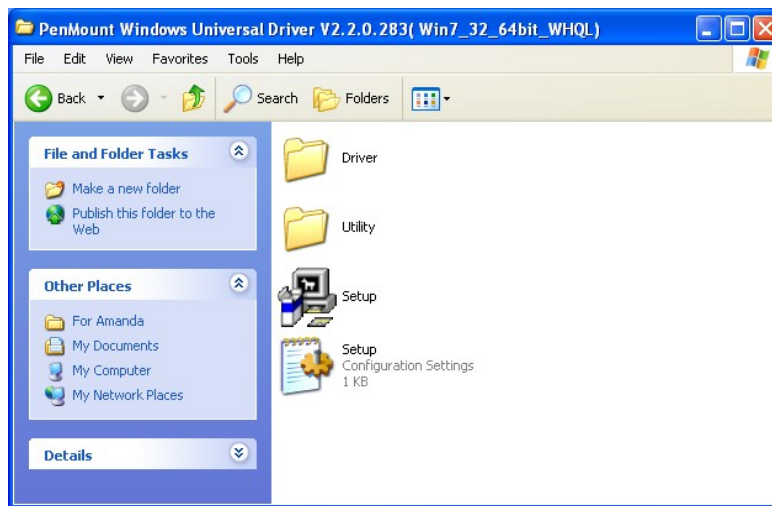

Figure 5-1: Setup Icon
**Step 3:** Select the **Touch Screen** option in the menu of driver CD. The directory in **Figure 5-1** appears.
**Step 4:** Double click the setup icon in **Figure 5-1**.